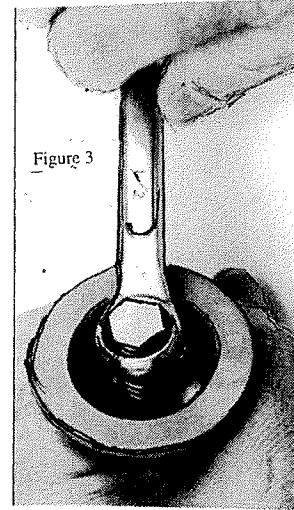
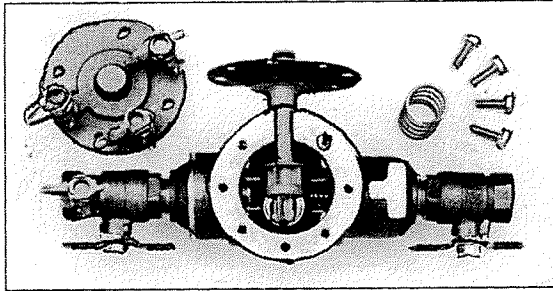

Figure 1
Figure 1a
2. Next use a wrench or socket to take the bolts out of top cover. After taking the cover off carefully inspect diaphragms, seals and seating surfaces for debris or damage. (RPZ Fig. 1 DCV Fig. 1a)